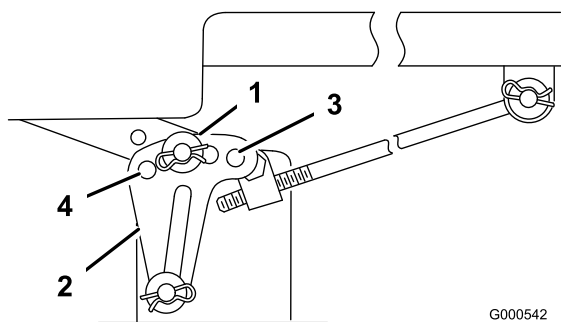

Figure 44
6. Remove the hairpin cotter and washer from the leveling bracket (Figure 44).
7. To level the blade(s), reposition the leveling bracket(s) in a different hole and install the washer and hairpin cotter. (Figure 44). A front hole lowers the blade height and a rear hole raises its height. Adjust both sides as required.